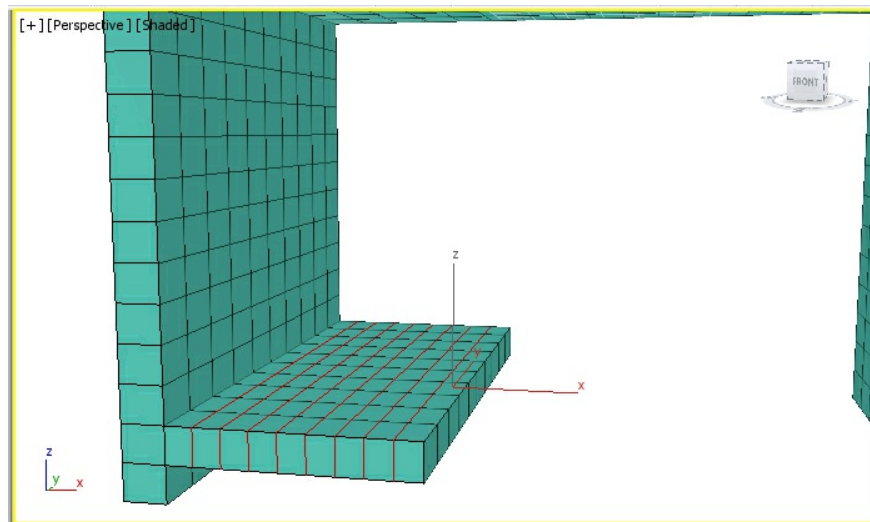

Figure 9-70 Edges added to the computer table
10. In the **Connect** caddy control, set the value **8** in the **Segments** spinner and choose the **OK** button; the edges are added, as shown in Figure 9-70.